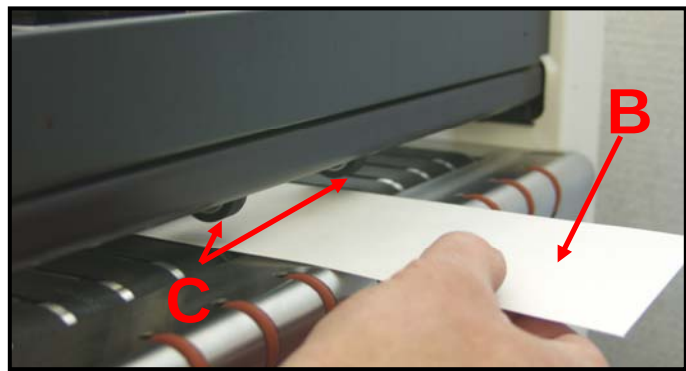

Figure 21
4. Place a piece of media [B], under the upper pressure rollers [C], as shown in **Figure 21**.